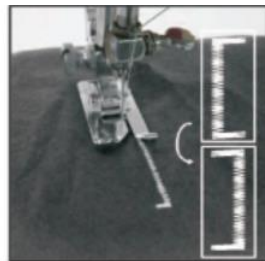

Fig.20
5. Raise the presser foot, rotating the cloth for 180° (Fig.20).